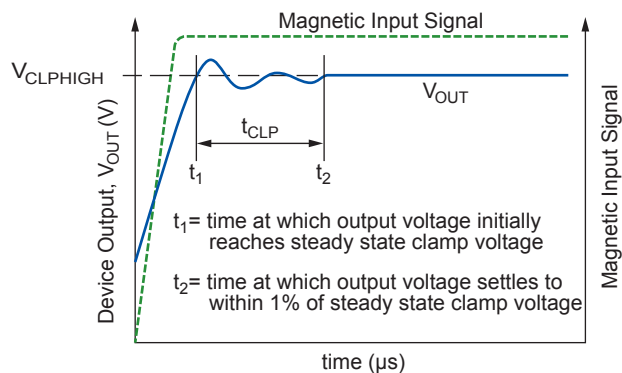

Figure 2. Definition of Delay to Clamp,  $t_{CLP}$
**Delay to Clamp** A large magnetic input step may cause the clamp to overshoot its steady state value. The Delay to Clamp,  $t_{CLP}$ , is defined as the time it takes for the output voltage to settle within 1% of its steady state value, after initially passing through its steady state voltage, as shown in figure 2.